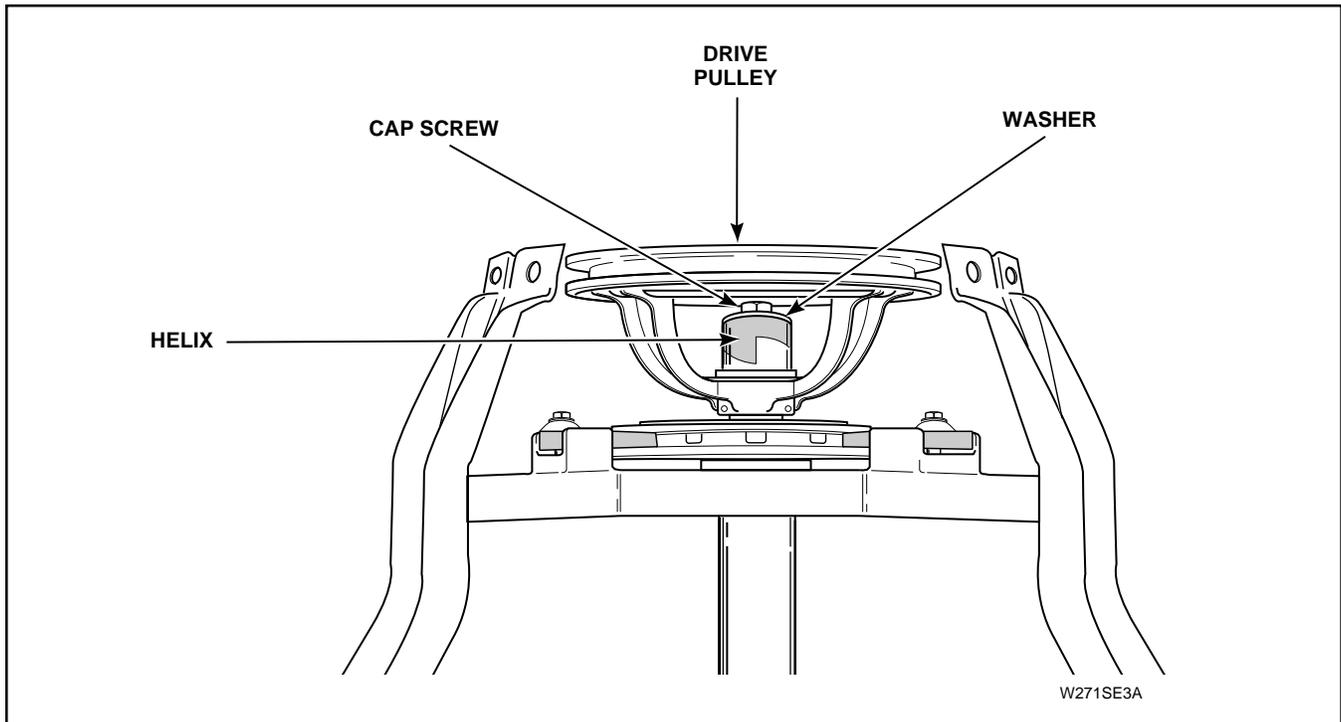

Figure 42
- Remove cap screw, washer and helix holding drive pulley to input shaft of transmission assembly, *Figure 42*.